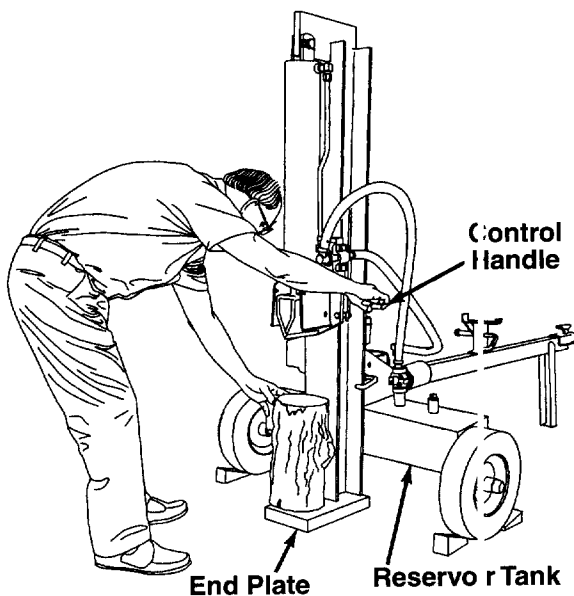

FIGURE 13.—Vertical Position
Use the log splitter only on a level, hard surface. Never stand beside the splitting wedge when operating the log splitter. Stand behind the reservoir tank when operating the log splitter in the horizontal position; stand in front of the log splitter when operating in the vertical position. See figures 13 and 14.
**Vertical:** Stand in front of the log splitter. Operate the control handle with your right hand and stabilize the log, if necessary, with your left hand. See figure 13.